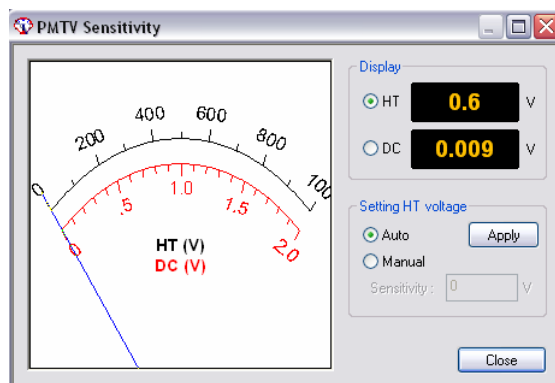

Figure. 3.8 [PMTV Sensitivity] dialog box
[Display] Changes over the meter indication (displayed to the right side of Fig. 3.8) at the right to [HT] or [DC] with an option button.
*Note: Closing the shutters zeroes the HT voltage. Ensure that this is the case by checking the [CD Detector...] dialog box (Fig. 3.8) if necessary.*